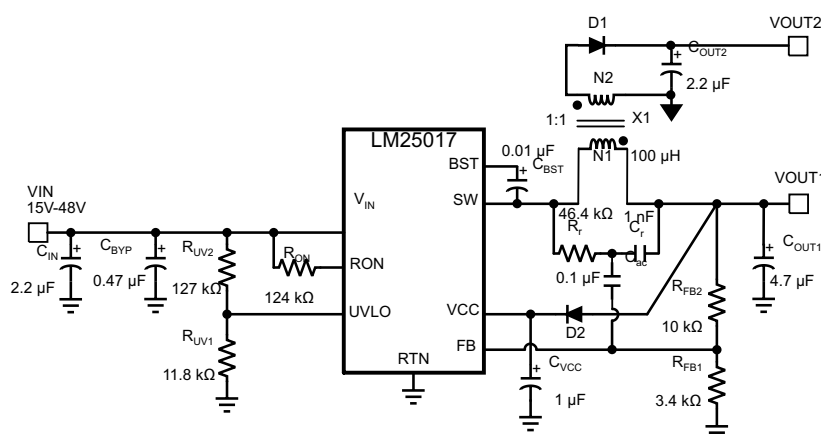

Figure 17. Typical Isolated Application Schematic
An isolated supply using LM25017 is shown in Figure 17. Inductor (L) in a typical buck circuit is replaced with a coupled inductor (X1). A diode (D1) is used to rectify the voltage on a secondary output. The nominal voltage at the secondary output (V_{OUT2}) is given by Equation 17.